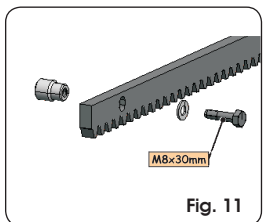
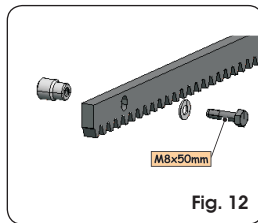
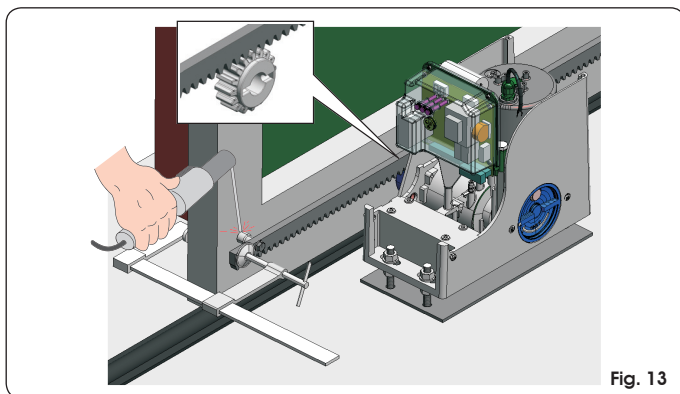
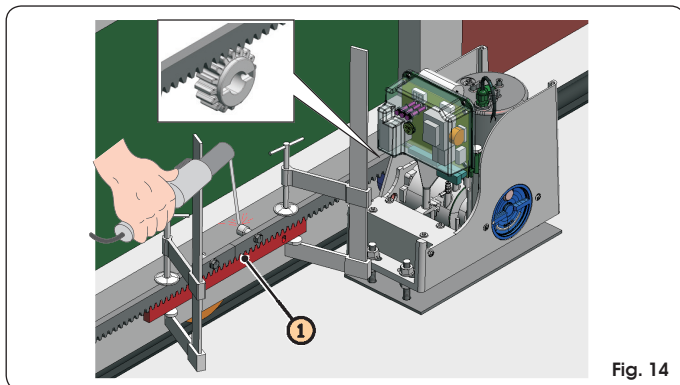

Fig. 11
Fig. 12
Fig. 13
Fig. 14
5.4.1. STEEL RACK TO BE WELDED (Fig.11)
- ① Fit the three threaded pawls on the rack element, positioning them on the upper part of the slot. In this way the clearance on the slot will enable any adjustments long-term.
- ② Manually move the leaf to its opening position.
- ③ Lay the first piece of rack level on the pinion and weld the threaded pawl on the gate as shown in Fig.13.
- ④ Manually move the gate, checking if the rack is resting on the pinion and weld the second and third pawls.
- ⑤ Fit another rack element next to the previous one, using a piece of rack, as shown in Fig.14 ref. ①, to synchronise the teeth of the two elements.
- ⑥ Move the gate manually and weld the three threaded pawls. Carry on like this until you have fully covered the gate.
**5.4.2. STEEL RACK TO BE SCREWED (Fig. 12)**
- ① Manually move the leaf to its opening position.
- ② Rest the first section of rack on the pinion, positioning the spacer between the rack and the edge of the gate. Using a spirit level, check if the rack is horizontal and mark the perforation point with a felt-tipped pen.
- ③ Drill with a 6.5 mm diameter bit, and thread with an M8 male element. Screw the bolt.
- ④ Manually move the gate, checking if the rack is resting on the pinion and repeat the operations in point ③.
- ⑤ Fit another rack element next to the previous one, using a piece of rack, as shown in Fig. 14 ref. ①, to synchronise the teeth of the two elements.
- ⑥ Move the gate by hand and perform the securing operations as for the first element, carrying on like this until you have covered the gate completely.